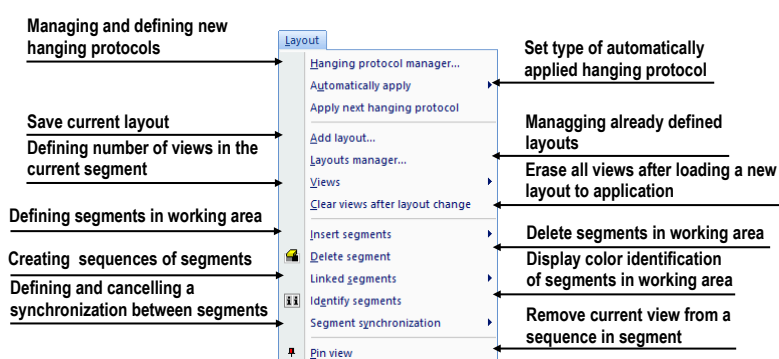

Figure 42 – Layout menu
- **Layout** – the functions for managing layouts and hanging protocols in TomoCon, such as creating a layout or hanging protocol, defining sequences or synchronizations, etc. (see Figure 42).